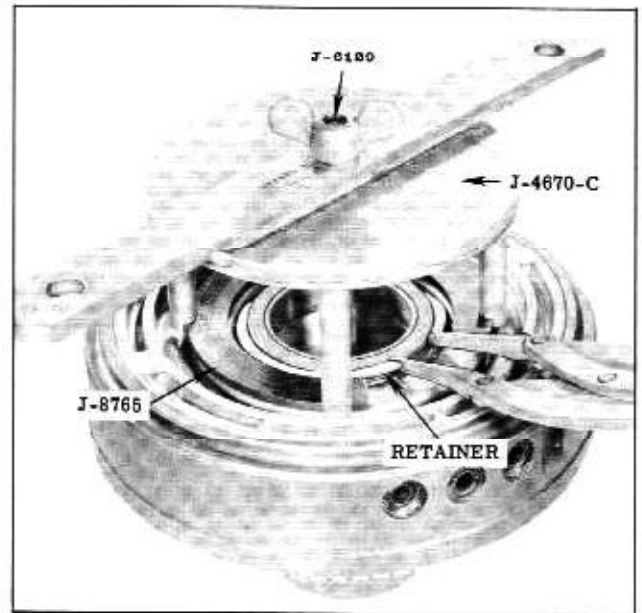

Fig. 3-69 Removing Neutral Clutch Retainer
7. Using Tools J-8765, J-6129, and J-4670-C, remove neutral clutch release spring retainer snap ring. (Fig. 3-69) Remove tools.
compress neutral clutch release springs and install retainer snap ring. (Fig. 3-69) Remove tools.